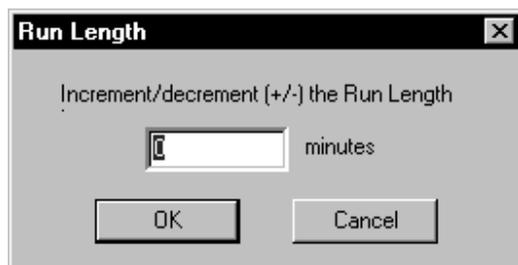

Figure 16-9. The Run Length window.
1. Click the **Full Run Time** button in the status bar of the Instrument Control Manager window. The Run Length window appears (figure 16-9).